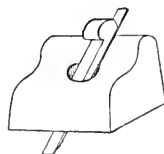

Fig. 15. ROUTER.
*The Router*, Fig. 15. This is a small copy of the joiner's plane of the same name. It consists of a block of wood with a perfectly flat sole; a hole through it at an angle carries the cutter and the wedge by which it is fixed. It is employed for flattening the ground-work after that has been partially excavated with the chisels. The sole of the router rests upon any margins left of the original surface, and being worked about over the ground, the fixed projection of the cutter rapidly reduces the latter to one true level. These routers are made from about nine inches long in the sole to about three inches, the smallest, which little tools have cutters about 1-8th of an inch wide.